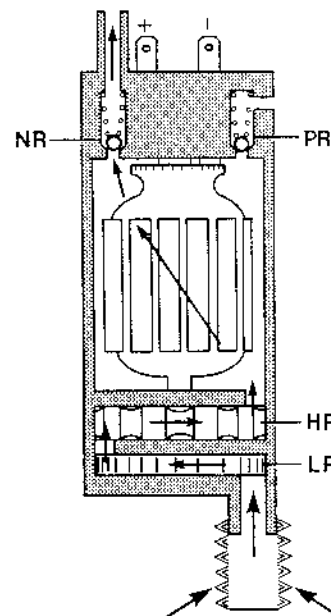

Fig.2 Fuel Pump
The pump has two pumping elements - a low pressure vane type pump (LP) and a high pressure roller type pump (HP). They are both located near the inlet port as shown in fig 2.